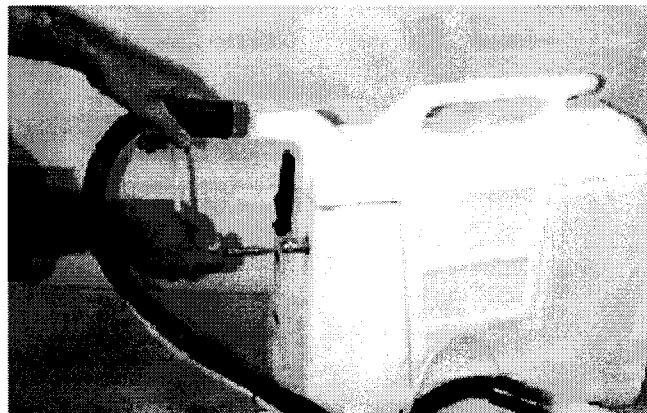

FIG. 4.
5. Connect hand tool hoses to extractor. Be certain that coupler locks into extractor's couplers. (Figure 4.)